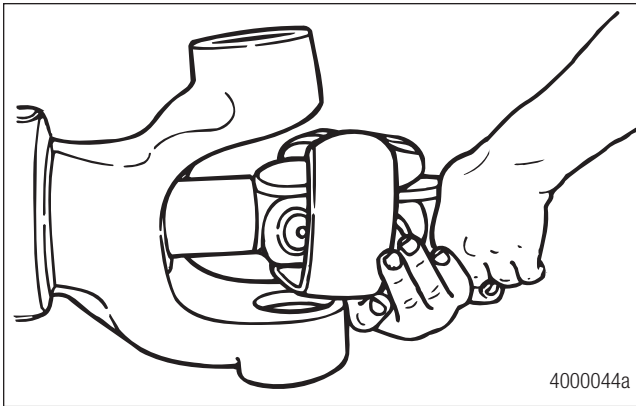

Figure 7.7
- Install the axle shaft double-cardan joint assembly into the housing. Carefully align the inner shaft splines with the splines of the differential side gear. Figure 7.7.